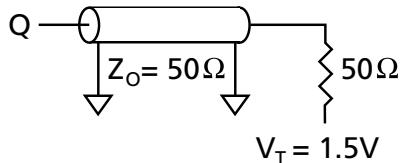

Figure 1
1. Test conditions as specified with the output loading shown in Figure 1 (V_{DDQ} = +3.3V +0.3V/-0.165V) unless otherwise noted.
Output load	See Figures 1 and 2